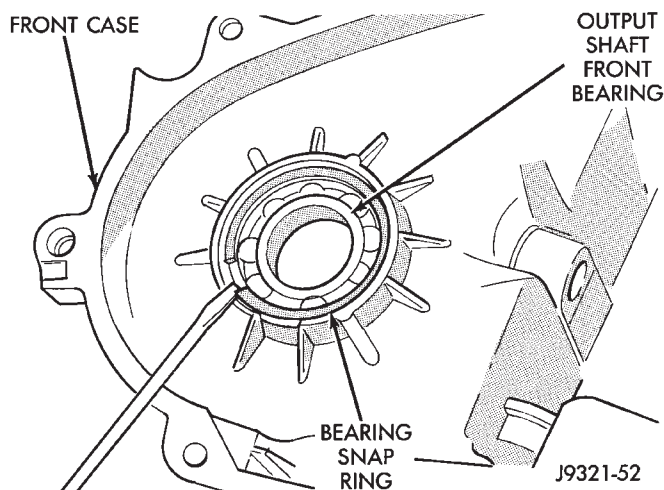

Fig. 9 Output Shaft Front Bearing Snap Ring Removal
- (1) Remove snap ring that retains front bearing in front case (Fig. 9).